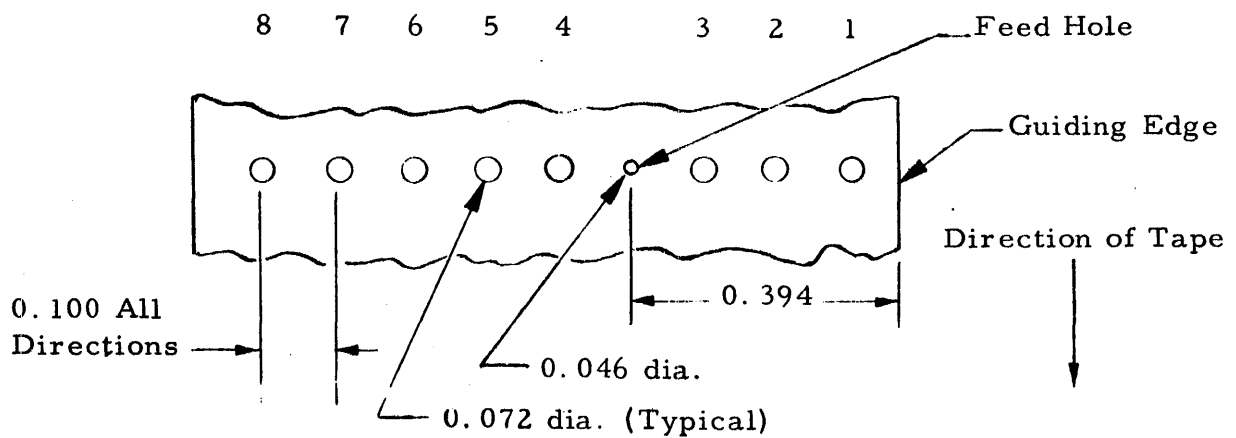

Figure A-1. Tape Code Sequence
- 5) The code sequence for the tape shall be as indicated in Figure A-1.